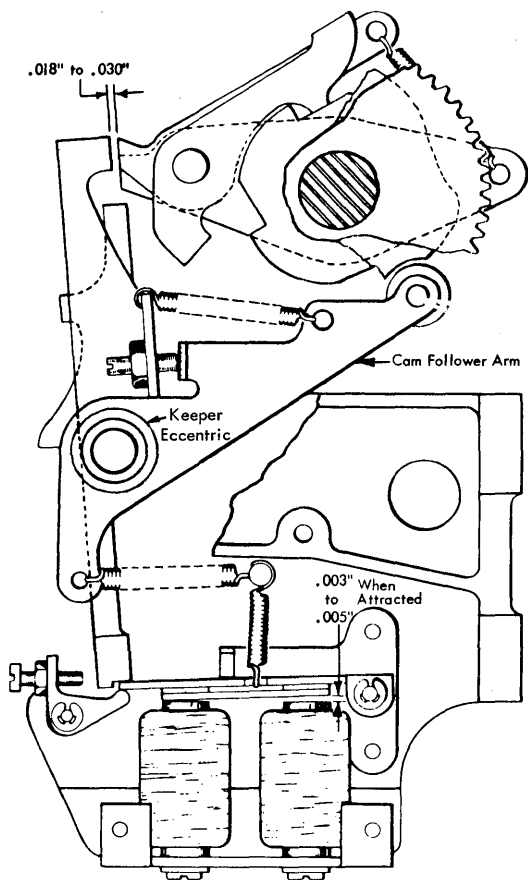

Figure 4-14. Punch Clutch Unlatching Clearance
1. With the cam follower on the low dwell of the cam, adjust the cam follower adjusting screw (Figure 4-14) for an unlatching clearance of .018" to .030".